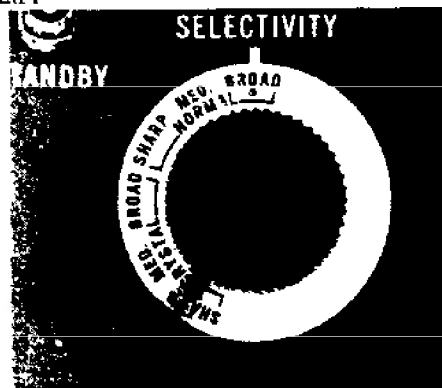

Figure 9. View showing Selectivity Control
10. The next control in sequence of importance is the SELECTIVITY control (See Fig. 9.). This control is very useful when it is desired to tune in a weak station on a frequency close to a powerful one, in which instance the control should be switched to MED, or in extreme cases to SHARP.